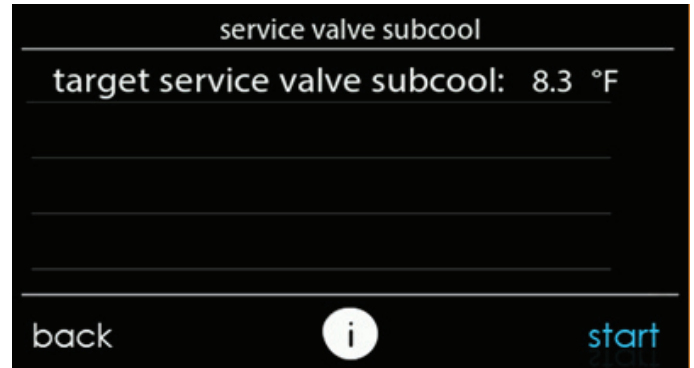

Fig. 14 – Liquid Service Valve Subcooling Target
6. The next screen will show the target subcooling that should be attained while charging (see Fig. 14). Before selecting "Start" verify that the service valves are open.